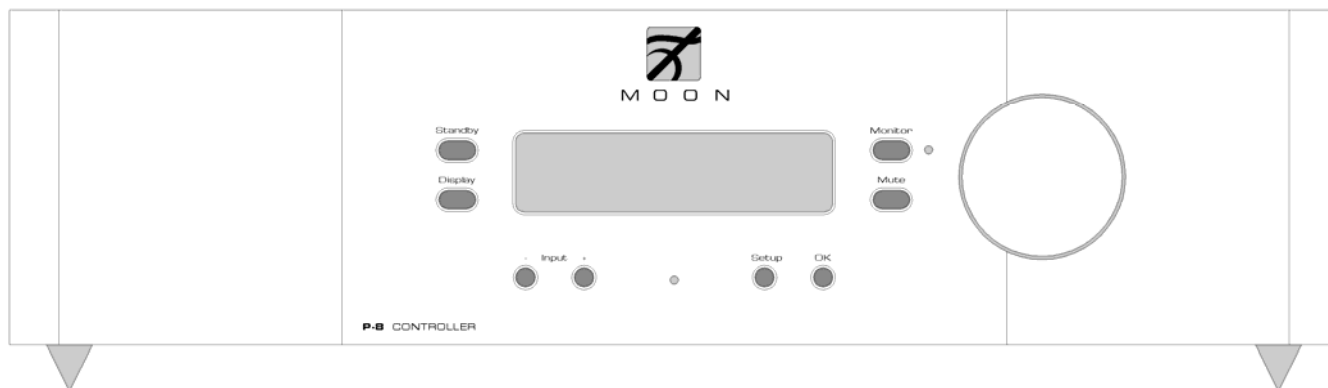

Figure 2: Front panel of MOON P-8 dual-mono Controller
The front panel will look similar to Figure 2 (above). The large display window normally indicates the current volume level and, whenever you change the input, it will briefly show the selected input label. On each side of the display window, are two (2) buttons. On the right side is a large rotary volume control. As well, there are four buttons (4) directly below the window, for a total of eight (8) which are all described in detail below: